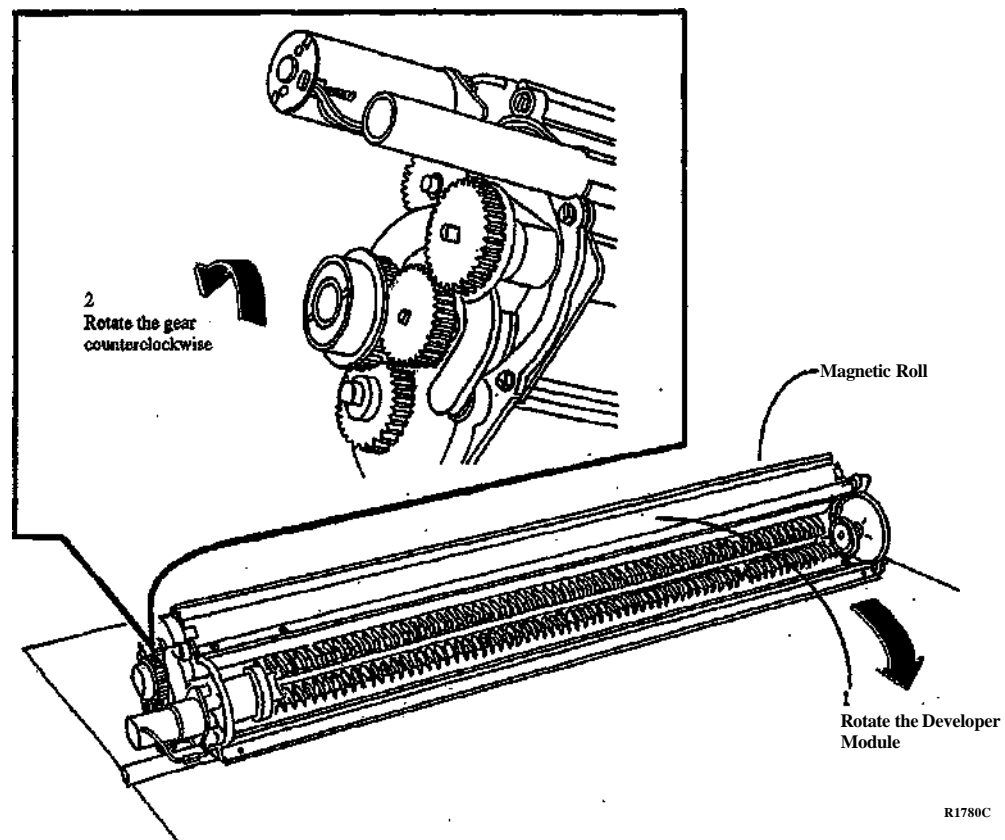

Figure 2. Dumping the Developer Material
4. (Figure 2): Dump the Developer Material.